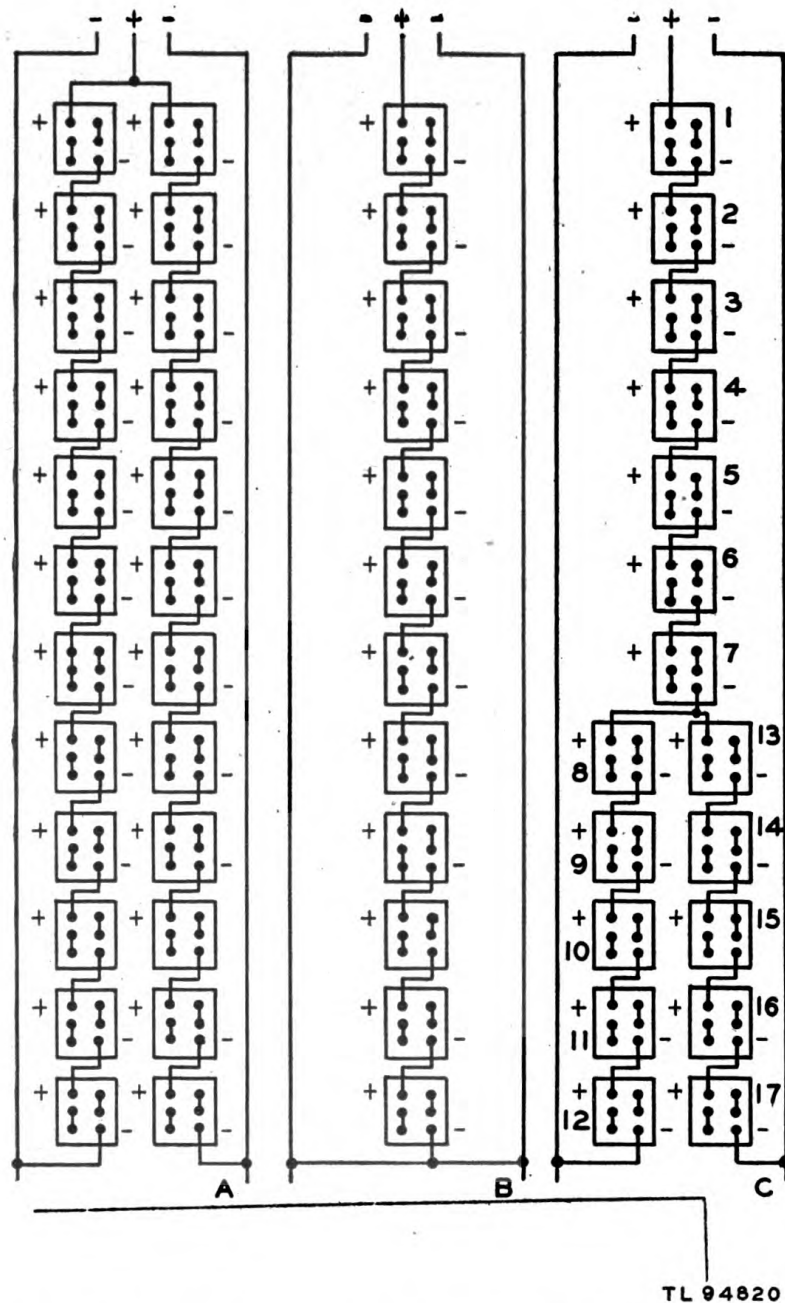

Figure 7. Diagram of possible battery connections in charging circuit.
d. CONNECTIONS FOR MISCELLANEOUS CHARGING. When using Rectifier RA-36-(*) and rectifier 6RB6B17 for miscellaneous battery charging (fig. 7) make the following connections:
- (1) The batteries must be connected in series, voltage adding.
- (2) The negative (—) end of the batteries must be connected to the negative (—) lead from the rectifier.
- (3) The positive (+) end of the batteries must be connected to the positive (+) lead from the rectifier.
(4) For typical examples of battery connection, see figure 7. In example A, each battery gets one-half the total charging current. In example B, each battery gets the total charging current. In example C, batteries 1 through 7 get the total charging current and batteries 8 through 17 get one-half the total charging current.
(5) In Rectifier RA-36-(*) the two negative leads are connected inter-